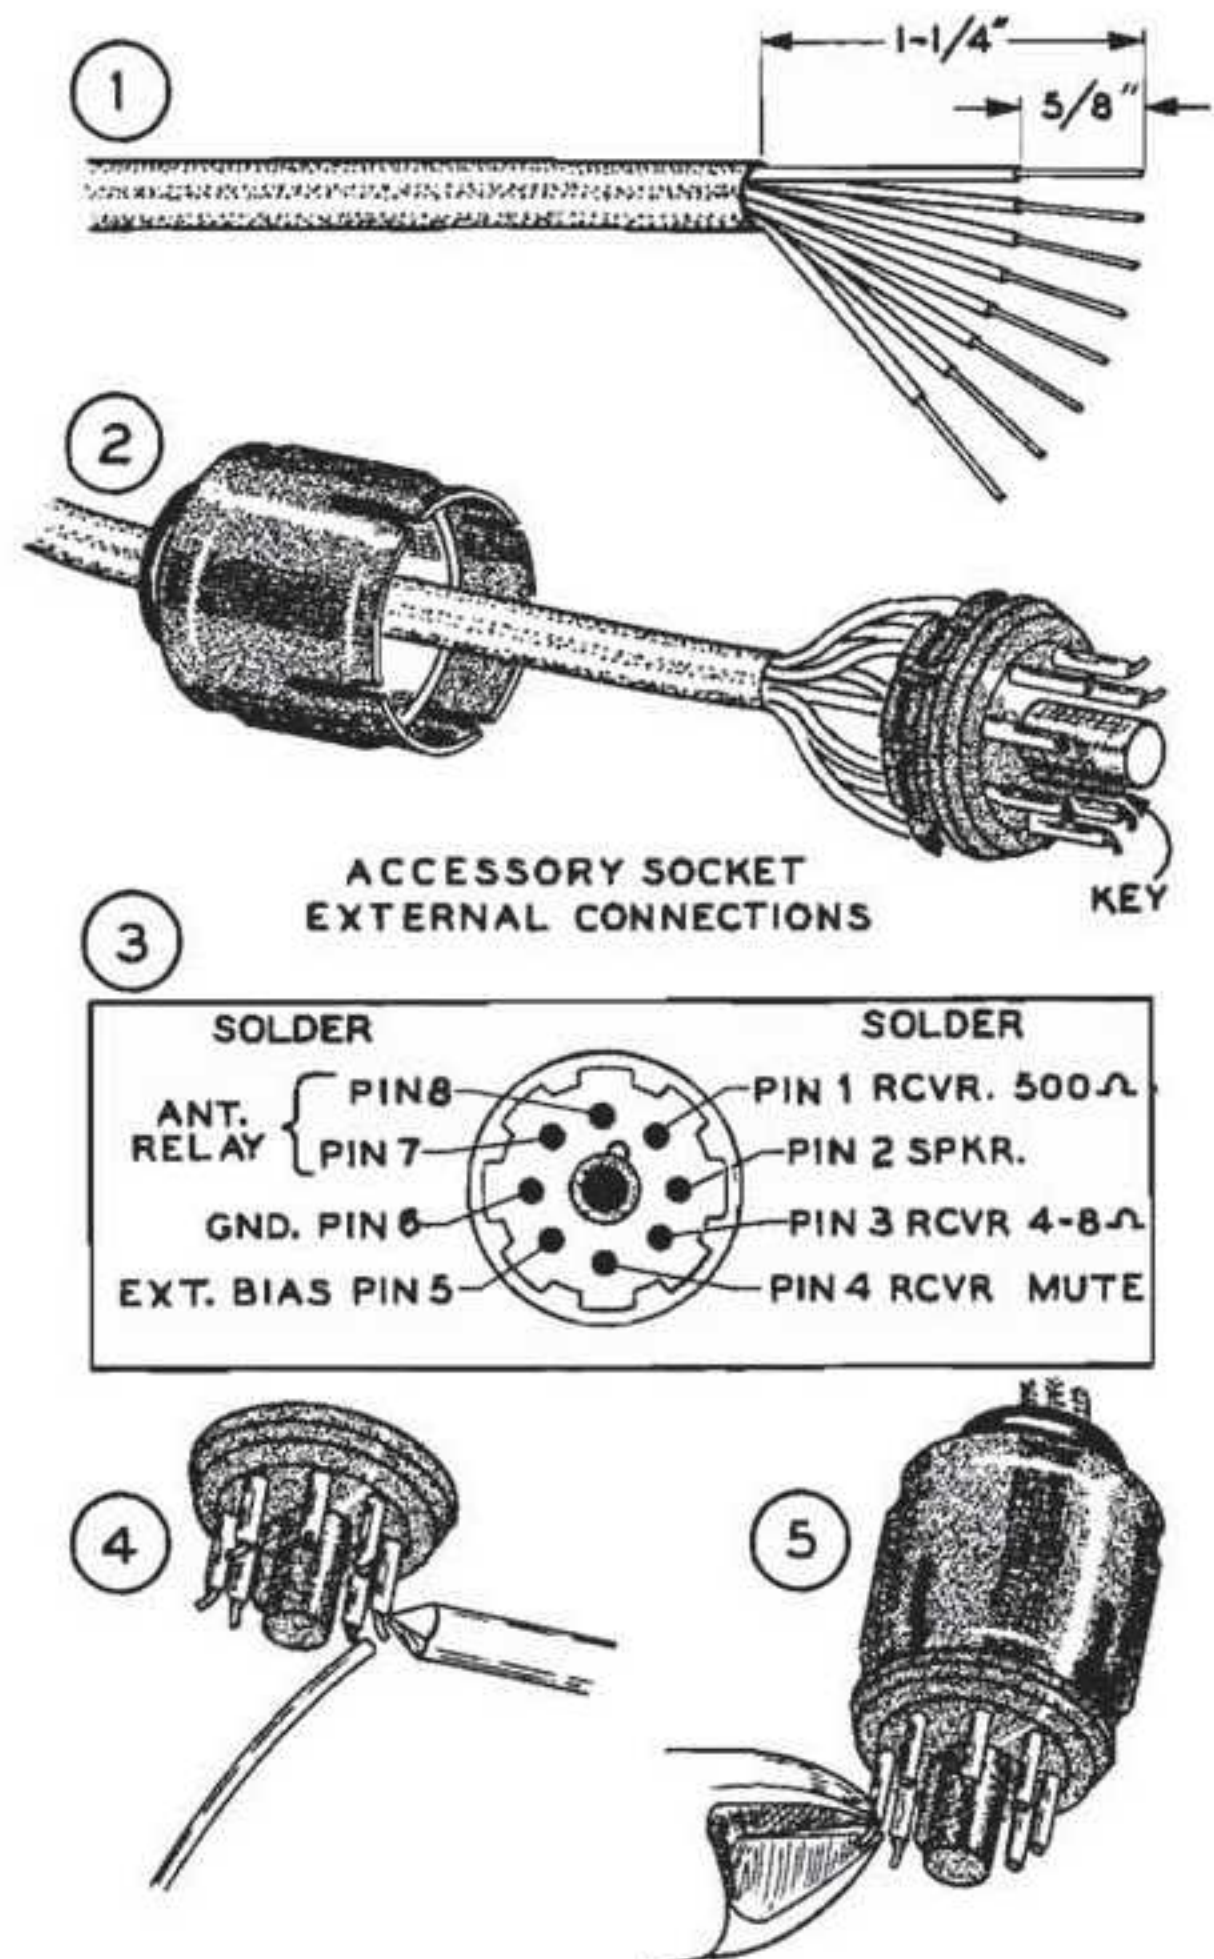

Figure 32
- () Make connections to the ACCESSORY plug as shown in Figure 32.